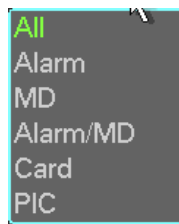

Figure 4-40
- Picture backup: Please set the corresponding time, channel and then select the type as PIC from the dropdown list. See Figure 4-40. Please click the Add button and then select